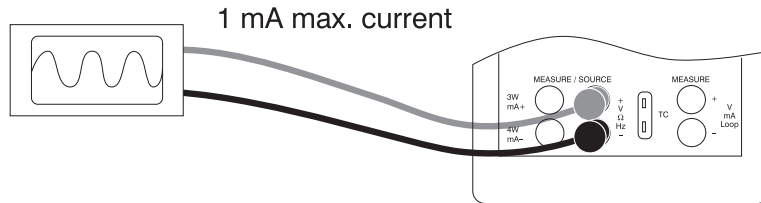

Figure 19. Connections for Testing an Output Device
3. Connect the leads to the instrument and the calibrator as shown in Figure 19.